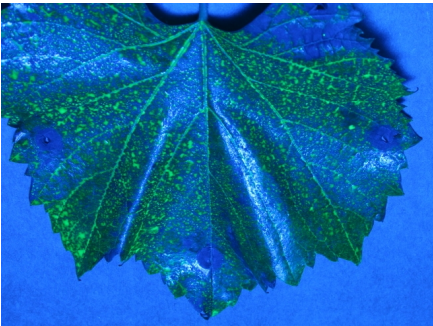
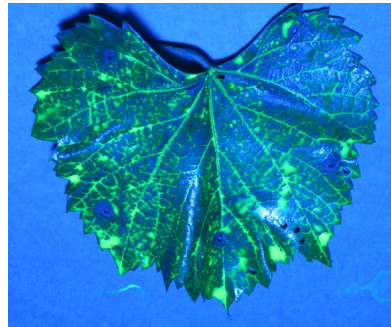

Figure 4 Coverage: 35gpa at 3mph
Figure 5 Coverage: 75gpa at 3 mph
- Fluorescent tracers and an ultra violet (black-light) lamp provide an excellent means of seeing where the droplets have landed, Figures 4 and 5. Figure 5 shows excessive application leading to run-off, resulting in less product being retained on the leaf. Growers have to wait until dark to see the droplets in the canopy or remove leaves to view in a darkened area. Inexpensive black lights are available on the internet.